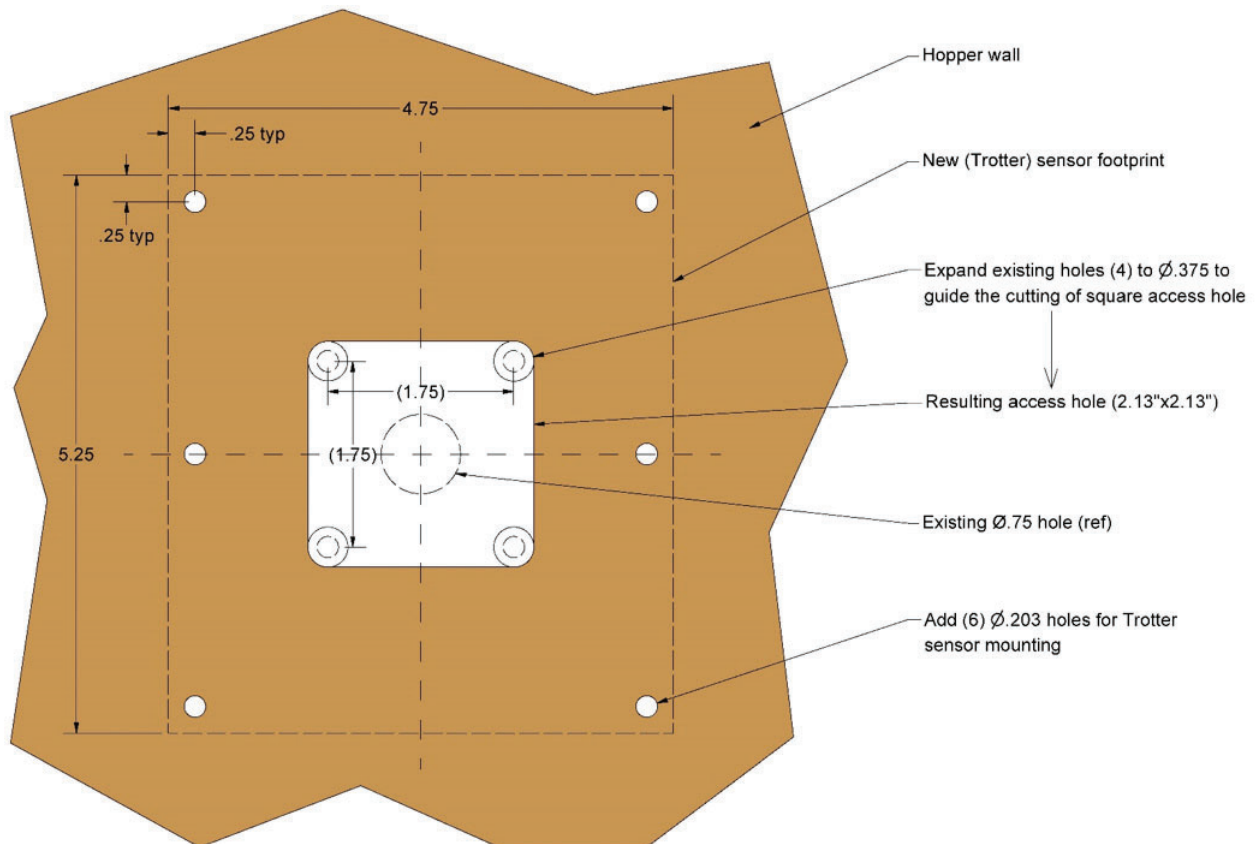

Figure 2 - Prepare the Bottom/Back of Hopper
2. Open up the 4 existing 3/16" mounting holes in the rear wall of the hopper to 3/8". Reference Figure 2.
3. Cut between the 3/8" holes for a 2.13" x 2.13" access hole. This will give access to install the connector on the new probe. Reference Figure 2.
4. Fit the new probe into the top upper bracket (10A12251-006) and center the foot over the 2.13" x 2.13" access hole. Transfer the 6 mounting holes in the foot of the new probe into the rear wall of the hopper using #10 drill bit. Reference Figures 2 and 3.
Note: A locally fabricated template may be used to assist in locating holes. See Figure 2 for pertinent dimensions. The 4 existing mounting holes are recommended reference points, before cutting the square access hole.
2. Locally fabricate adapter plate matching the new (Trotter) footprint and containing the center $\frac{3}{4}$ " hole as well as the 6 new mount holes for the Trotter sensor. Reference Figure 2. Plate to be made from 0.070" stainless steel, grade 301, 304, or 316.
3. Expand the 4 Amtech mounting holes in the hopper wall to $\frac{3}{8}$ ". Reference Figure 2.
4. Cut between the newly expanded $\frac{3}{8}$ " holes to create a square access hole. Reference Figure 2. When the new (Trotter) sensor is installed, this will provide access to install the connector.